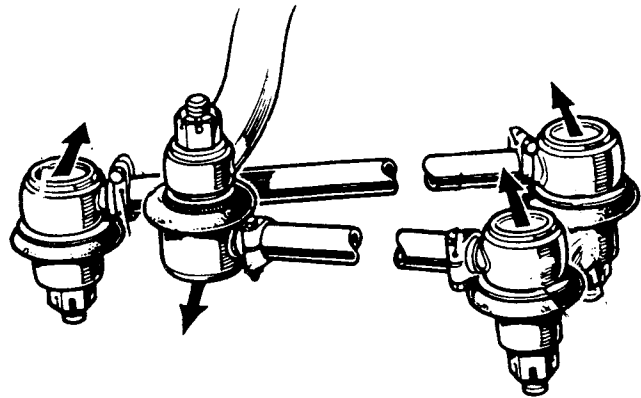

Fig L3.4
- (4) Refer to Fig L3.4. When the toe-in is correct, lightly tap the track rod ball joints in the direction indicated to the maximum of their travel, to ensure full unrestricted movement of the track rod.
- (5) Secure the ball joint clamps. Torque load 11 to 15 N.m.